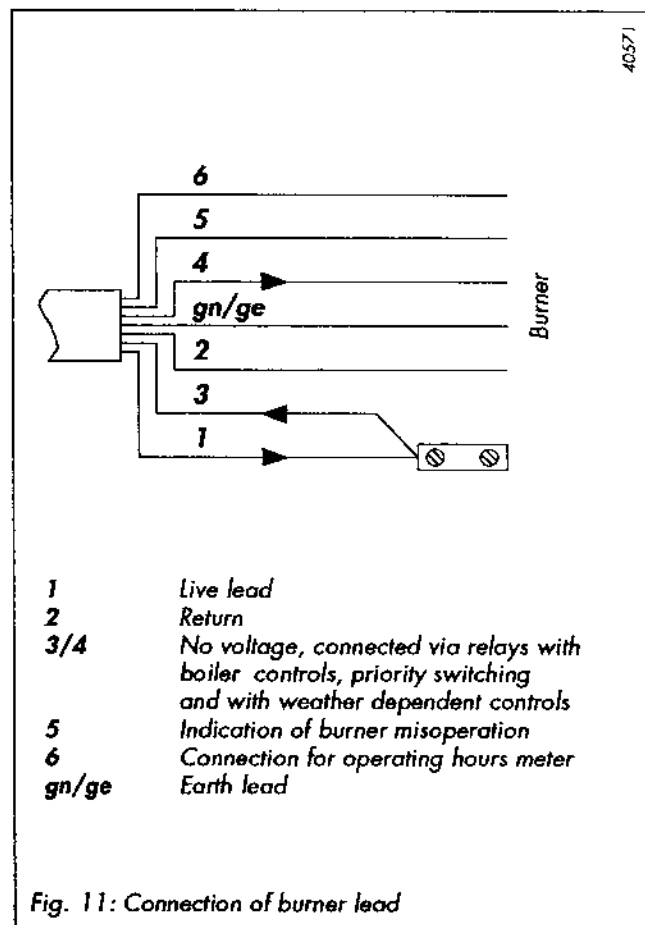

Fig. 11: Connection of burner lead
- The Econotwin KTx is fitted with a standard 6-pole burner connector - Lay out of the burner wiring connections (numbered leads) see Fig. 11.
- Connect the remainder of the wiring as in Fig. 11 and the wiring diagram on page 16.